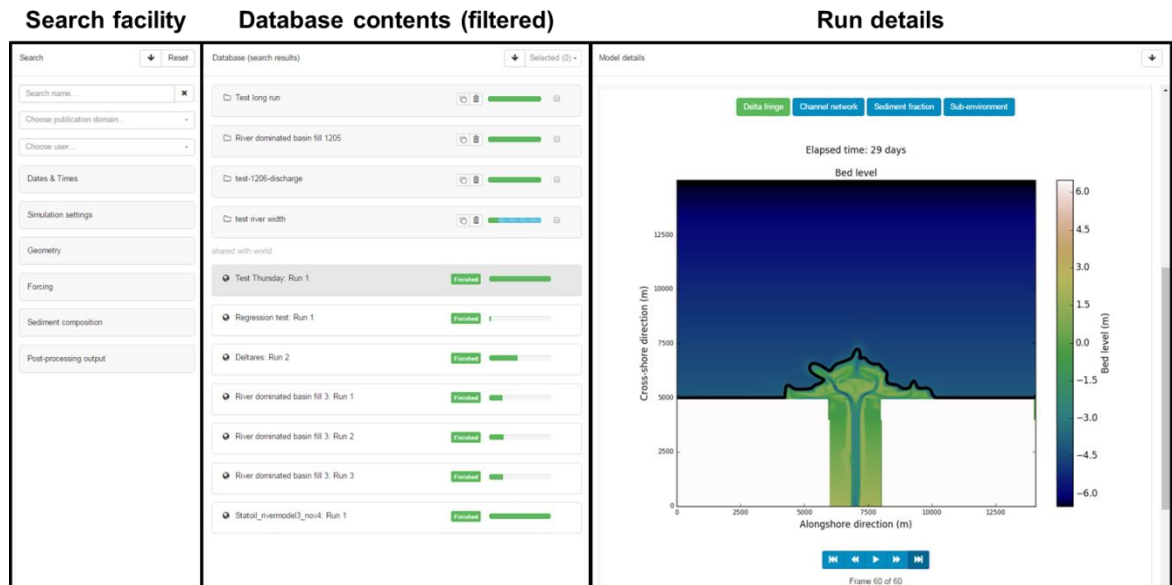

Figure 2.6 Overview of the Delft3D-GT database displaying the search facility, the (filtered) database contents and run details
After a successful login procedure, the user is directed to the Delft3D-GT database (Figure 2.6). This is the central feature of the Delft3D-GT GUI. It has three main components: (1) a search facility, (2) an overview of the (filtered) available scenarios/runs and their status and (3) the run details in terms of meta-information, input and output.